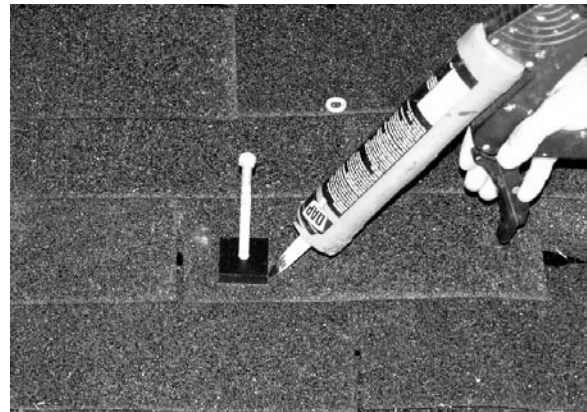

Fig. 5.3.4 – Roof-sealant application.
2. Apply roof-sealant to one side of black nylon spacer. Align drilled hole with nylon spacer hole and stick spacer to roof (Fig. 5.3.4).